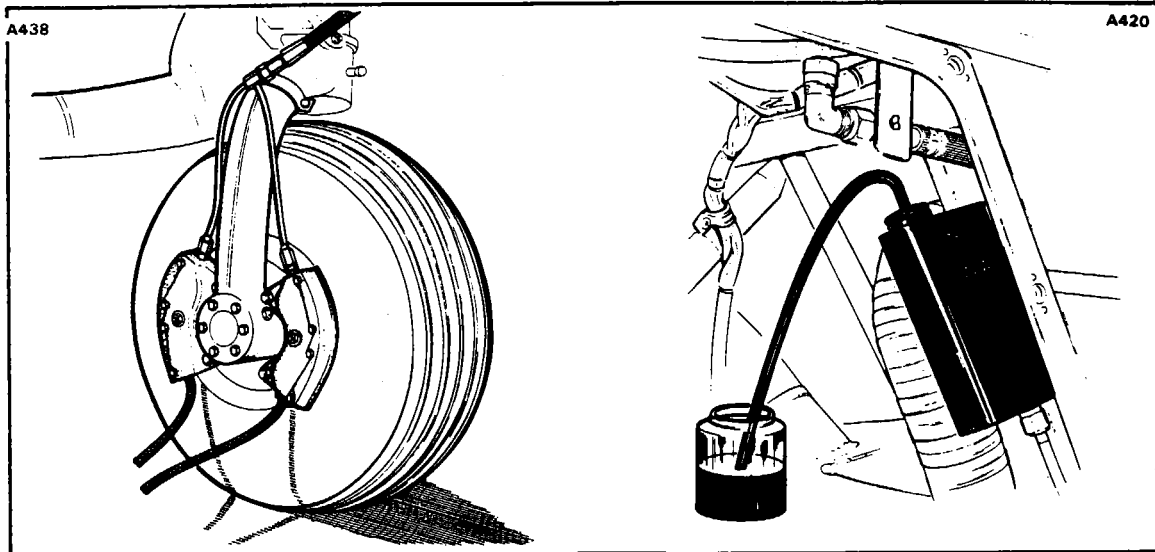

Figure 7-29. Bleeding Brakes
c. Slide a hose over the bleeder fitting, loosen the fitting one turn and pressure fill the brake system with MIL-H-5606 fluid. (Refer to Figure 7-29.)
| Figure 7-29 Index | Part No. | Item | Manufact. Dim. | Manufact. Toler. | Min. Service Limit | Max. Service Limit |
| Figure 7-29 Index | Part No. | Item | Manufact Dim. | Manufact. Toler. | Min. Service Limit | Max. Service Limit |